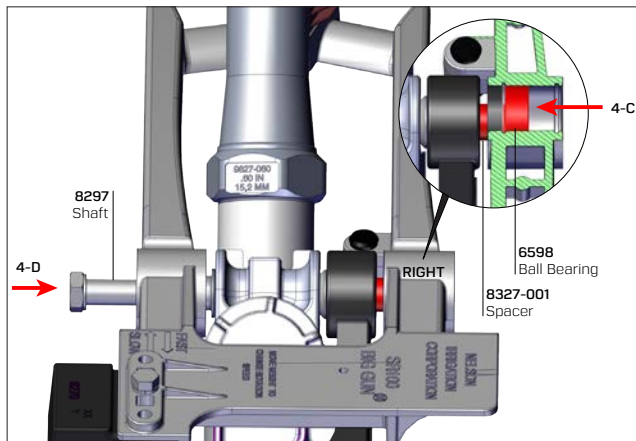

Fig. 20.
- C. With finger pressure, push #6598 ball bearing and #8327-001 spacer of RIGHT bearing hub to left and into position (see Fig. 20).